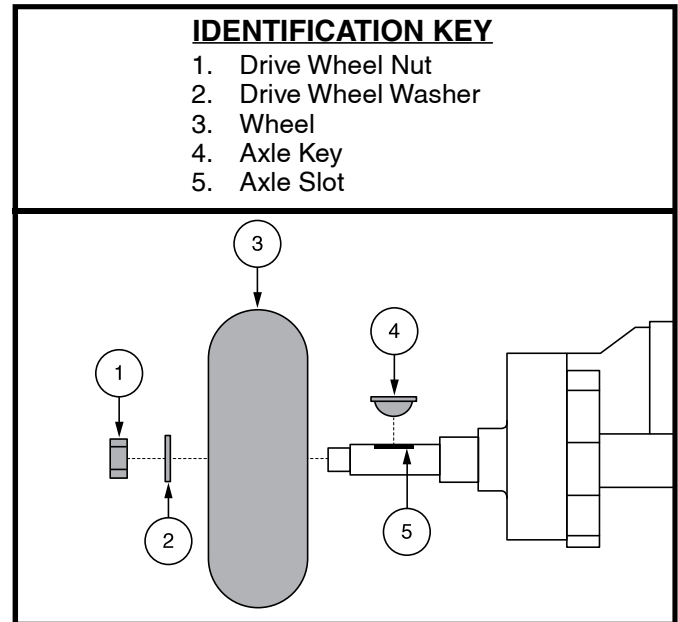

Figure 21. Wheel Replacement
3. Remove the drive wheel nut and washer from the axle. **See figure 21.**